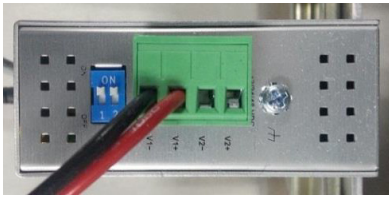

Figure 27: Power & BSP Switches
- Ensure power is connected to green terminal block (Red to V1+, Black to V1-) and the two BSP DIP switches are both set to ON. Refer to **Figure 27**.